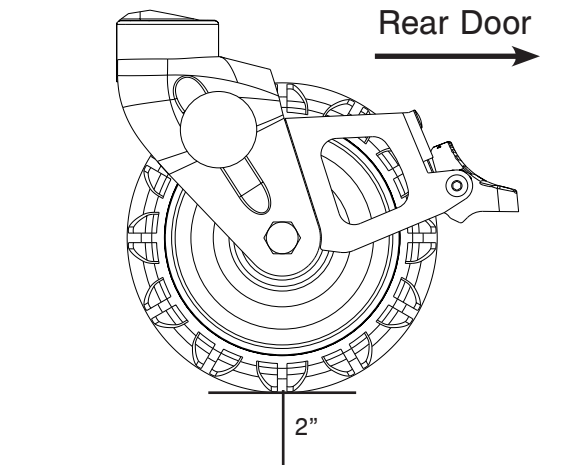

Figure 2
14. Using a tape measure, measure the distance from the bottom of the foot end cot wheel to the floor with the cot wheel facing the back of the vehicle patient compartment (Figure 2). Make sure that the distance between the bottom of the foot end cot wheel to the floor is 2 in.